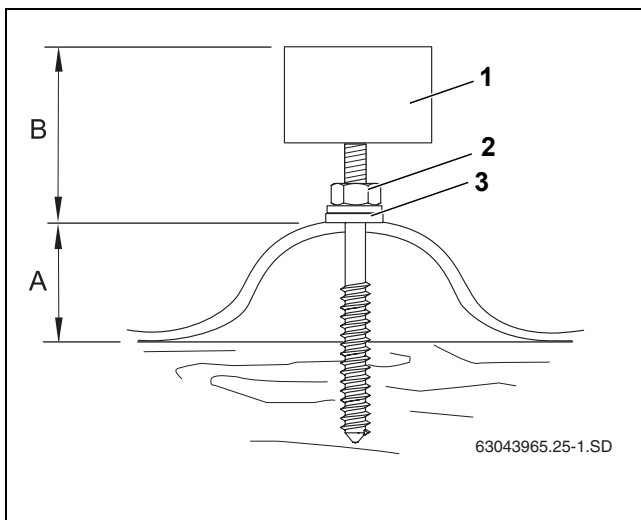

Fig. 23 Fitting the double ended screws - sequence
When turning the double ended screws, ensure that distance B (tab. 7 and Fig. 23) is the same for all double ended screws.
- Tighten the nut (Fig. 23, [2]) until the sealing disc (Fig. 23, [3]) fully touches the roof.